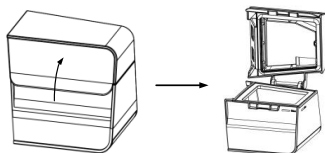
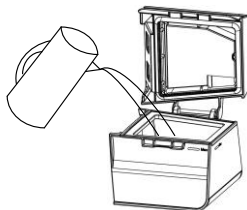

Fig. 14-2
Fig. 14-3
(1) Remove the water chamber, open the cap, as shown in Fig. 14-2, and fill the water chamber with approximately 360 mL of water, as shown in Fig. 14-3. Make sure that the water does not exceed the maximum water level line.